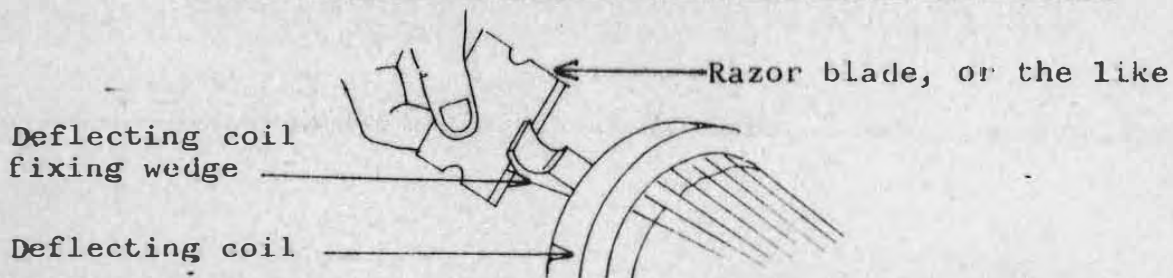

Fig.2-2 Removing deflecting coil fixing wedge
(2) Color Purity
- d. Move the deflecting coil forward little by little until the whole of the screen becomes red evenly. (If the deflecting coil fixing wedge is a hindrance, remove it as shown in Fig.2-2.) Confirm that the picture is not out of the center of the screen, longitudinally or laterally. If out, correct the picture's position by adjusting the purity magnet in a range of not deteriorating purity.)